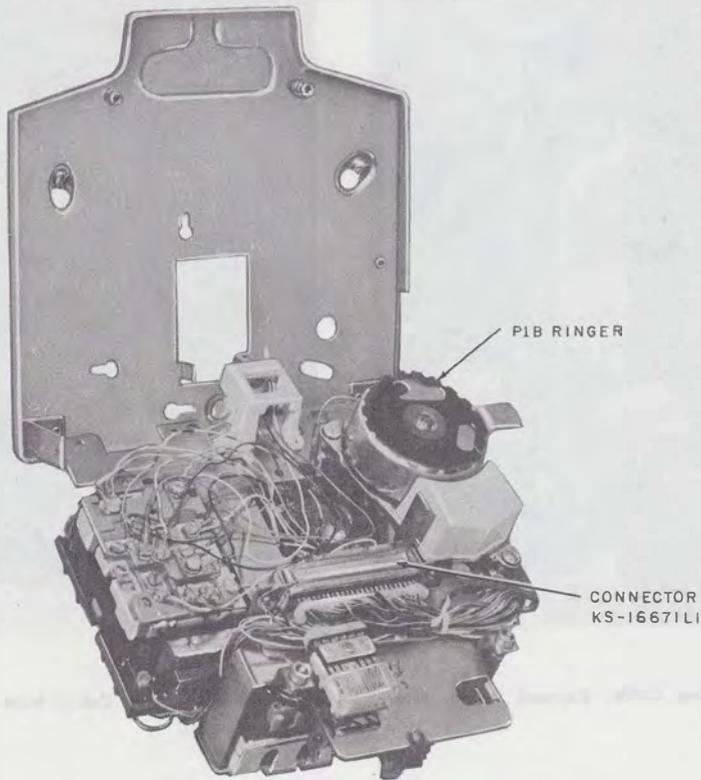

Fig. 6—851CM or 2851CM Telephone Set Showing KS-16671LI Mounting Cord Connector
3.09 The 851CM and 2851CM telephone sets are equipped with a KS-16671L1 connector (Fig. 6). An A25B connector cable is required to connect set to key equipment.
4.03 For sets equipped with the KS-16671L1 (Fig. 6) an A25B connector cable is required.